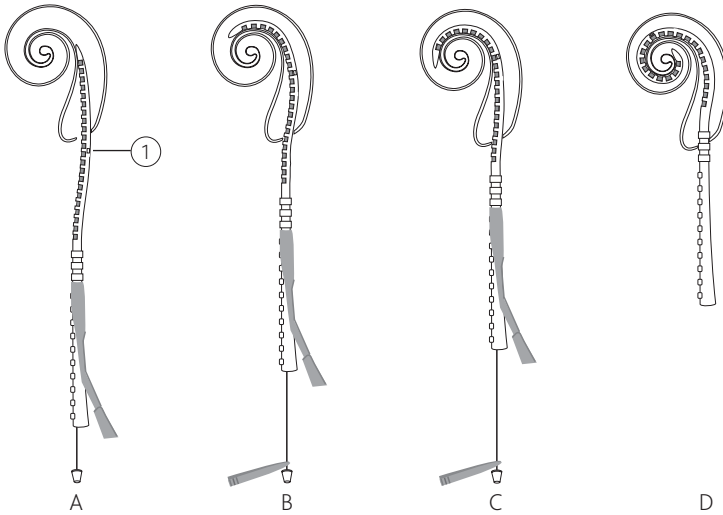

Figure 11: AOS Insertion (white marker (1) (7.6 mm from tip) at cochleostomy)
4. Insert the electrode until the white marker (7.6 mm from tip) is at the cochleostomy (see Figure 11 below).